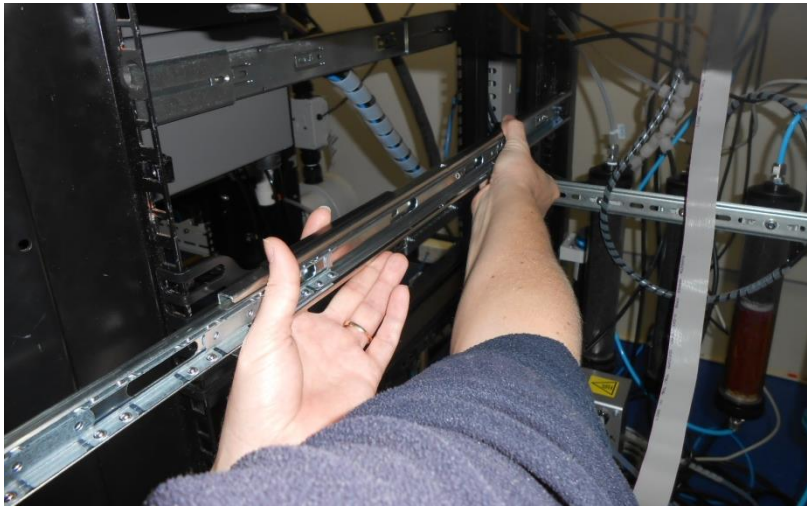

Figure 162 – Test Fit the Rack Slide Assembly into your Rack
6. Refer to Figure 162. Test fit the rack slide into your rack to determine the spacing of the rack mount adaptors.